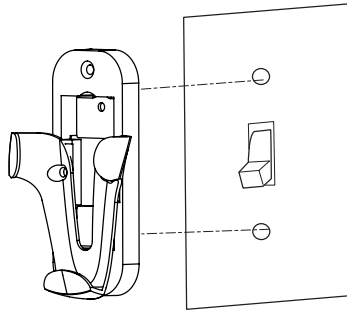

Figure 9a
2. Orient the control cradle as shown in Figure 9a, and line up the two inner mounting holes with those on the switch, insert screws, don't over tighten.